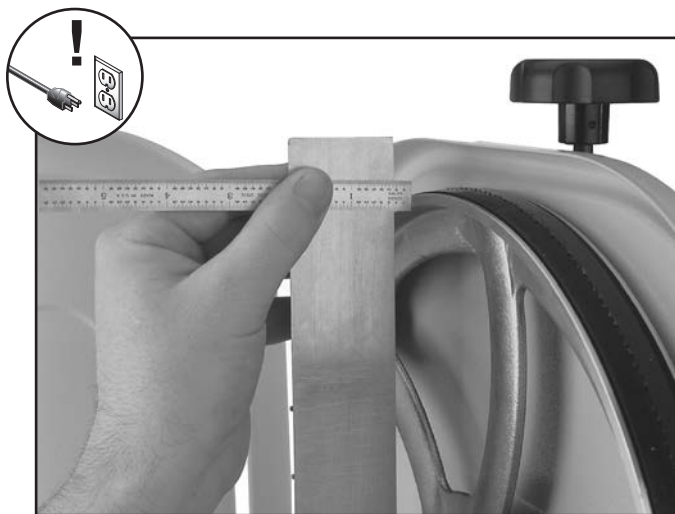

Figure 56. Example of measuring the distance to shim the wheel to be coplanar.
3. With straightedge touching both rims of wheel that does not need to be adjusted, measure the distance away from the other wheel with a fine ruler, as shown in **Figure 56**. The distance measured with the ruler is the distance this wheel must be shimmed.